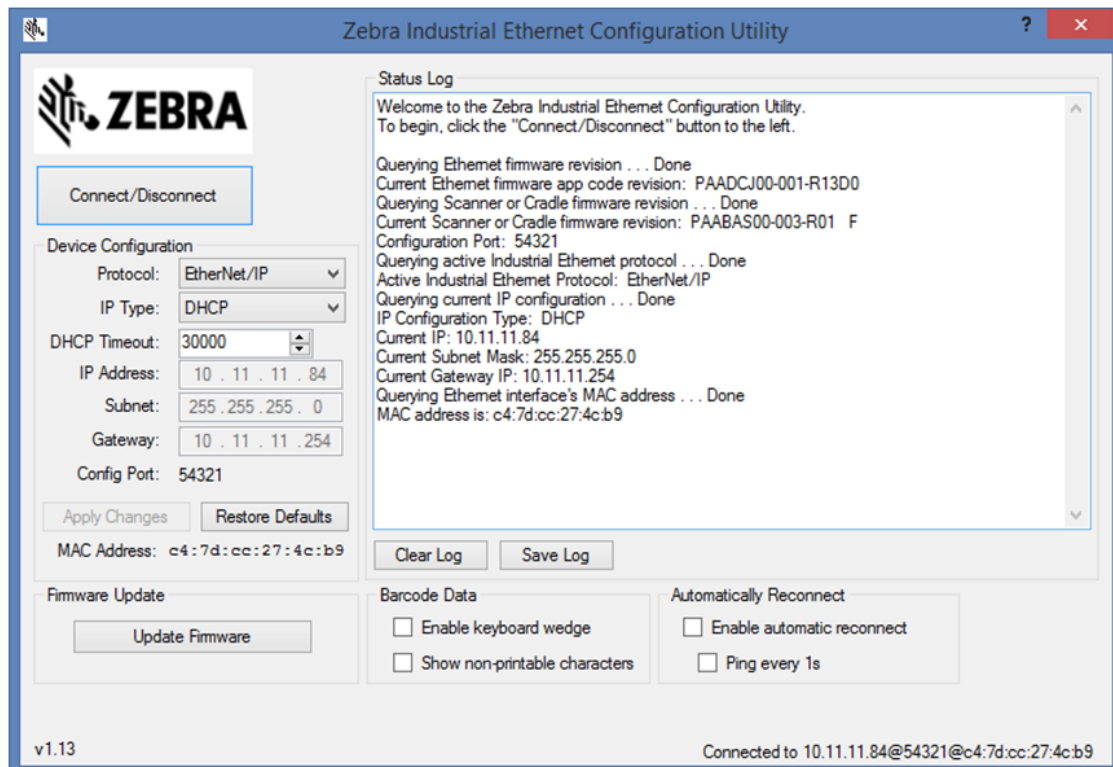

Figure 1-2 Zebra Industrial Ethernet Configuration Utility Home Screen
After installing, running, and connecting to an STB3574 as described in Initial Setup on page 1-2, a screen similar to Figure 1-2 displays. Once connected, all fields are populated with current information and the Status Log is updated with specific information pulled from the cradle, including firmware versions.
3. Scan bar codes with the DS3578, or equivalent, paired scanner. The bar code data displays in the Status Log on the Zebra Industrial Ethernet Configuration Utility screen (Figure 1-2).